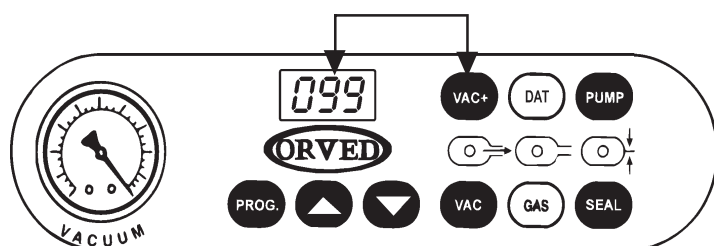

Fig. 3
- Regulate the 'VAC' function on the control panel to the maximum value of 99% (**Fig. 3**).